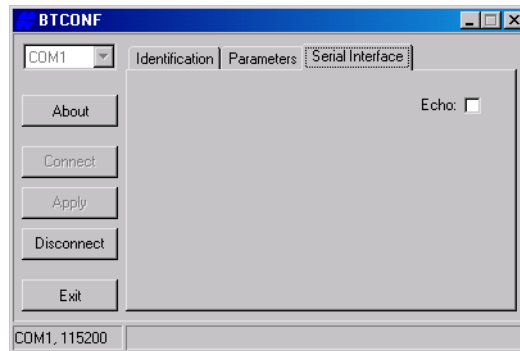

Figure 2-32. BTCONF Serial Interface Tab
8. Click the **Serial Interface** tab (Figure 2-32). Enable Echo to display Bluetooth module replies and corresponding commands on the computer terminal. If needed, click **Apply**.